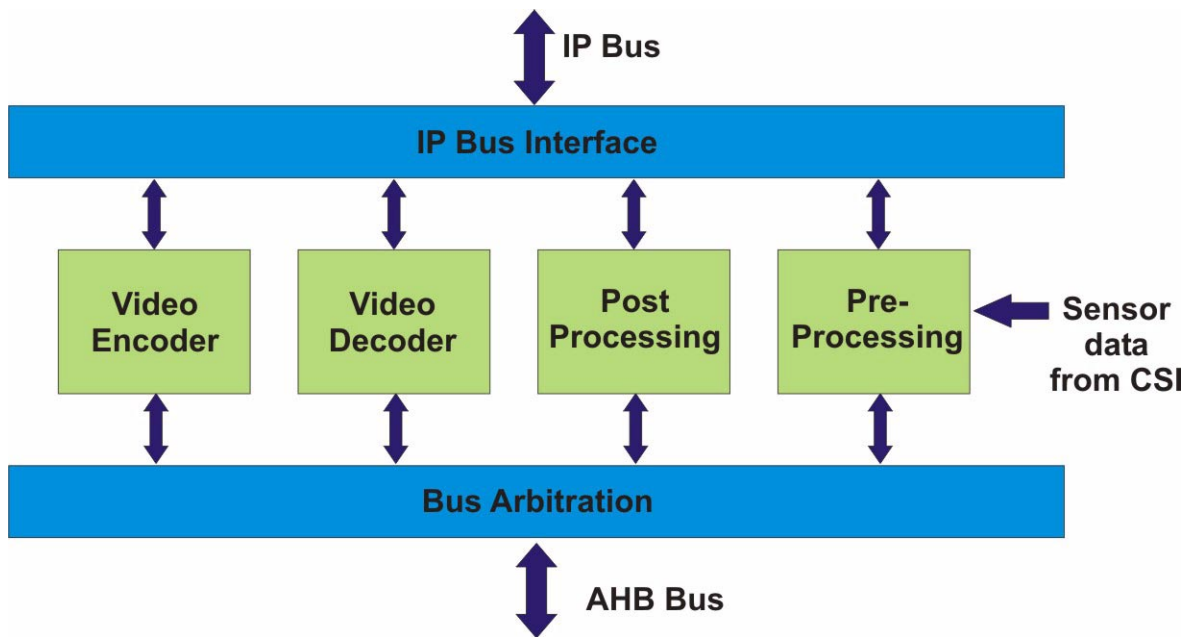

Figure 2. eMMA Architecture
i.MX21 comes with an enhanced Multimedia Accelerator (eMMA) comprising an ISO/IEC 14496-2 compliant MPEG-4 Encoder and Decoder and independent Pre-processing and Post-processing stages which provide exceptional image and video quality. The eMMA represents a major breakthrough to solve the problem of high MIPS requirement for video encode and decode operations in mobile and wireless applications. Tight integration and memory pipelining coupled with AHB master mode operation ensures minimal system loading. To further offload the CPU, live video stream data enters the eMMA module directly through an internal private data interface. The eMMA architecture is shown in Figure 2.